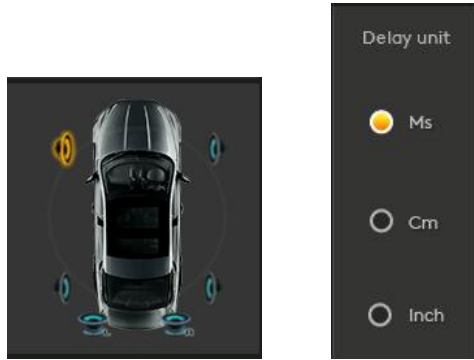

Figure 3.3.3
4. DA-4860DSP processor output signal path can be any type of configuration freedom to any sound field point and the speaker type. The system defaults to 4.1 full-range passive mode. Figure 3.3.3 as follows ;